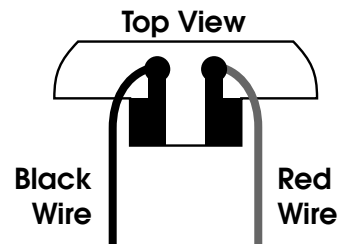

Fig. 1
- Remove bulb from light board. Attach the BLACK and RED wires to board as shown (Fig. 1). Solder WHITE and BLUE wires to bulb.